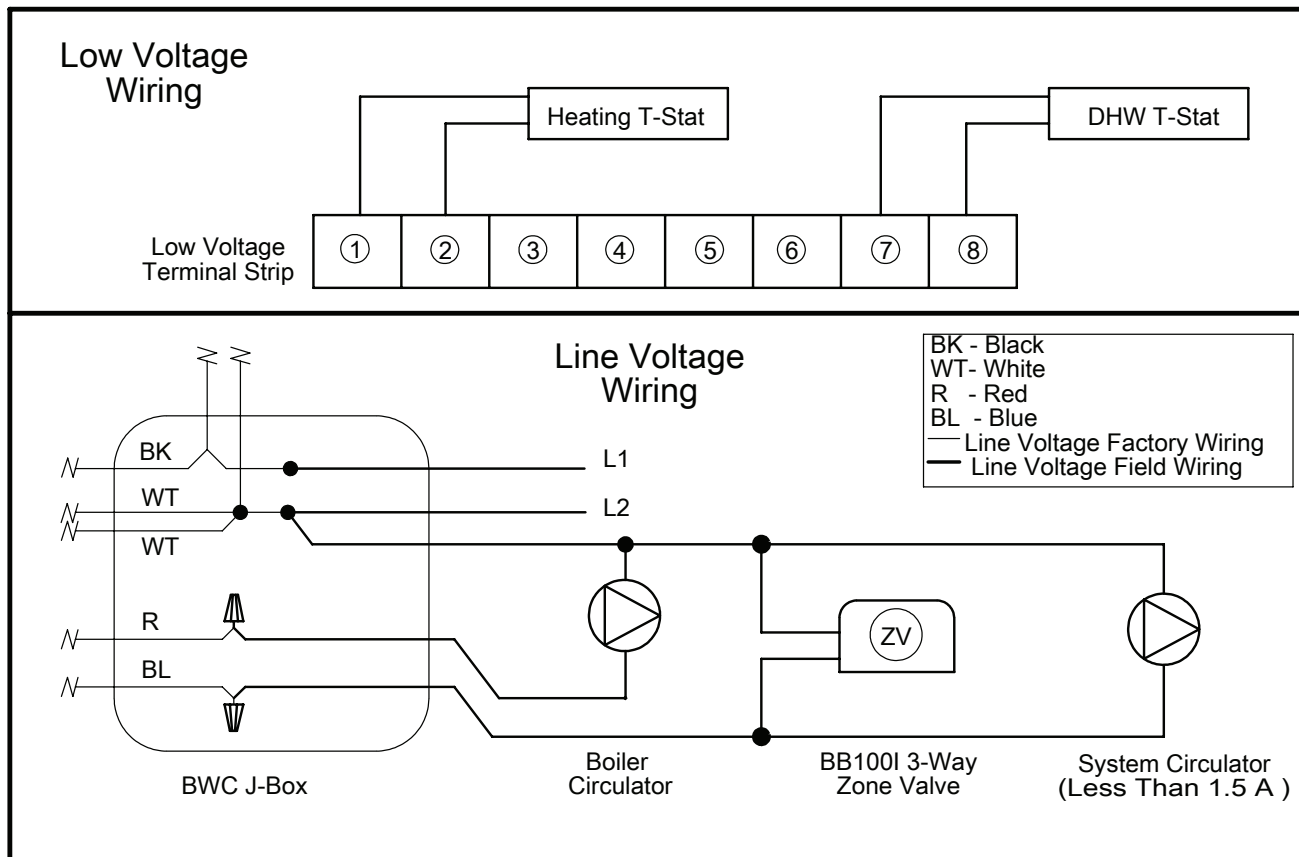

FIGURE 7.2: Wiring BB100I to Boiler equipped with Type III MCBA
3) Connecting BB100I to Type III MCBA Equipped boilers (Figure 7.2):